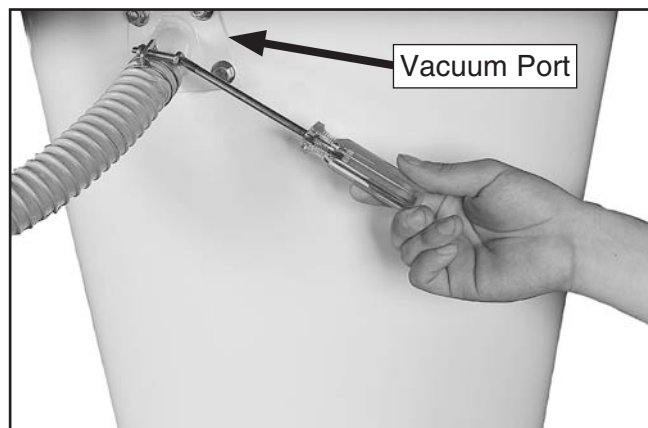

Figure 24. Cyclone vacuum tube and hose attachment.
- Apply the 3 x 6 x 300mm foam tape to the mating surface of the cyclone vacuum port, then attach it to the cyclone funnel with (4) $\frac{5}{16}$ "-18 x $\frac{3}{4}$ " hex bolts and (4) $\frac{5}{16}$ " flat washers (see **Figure 24**).